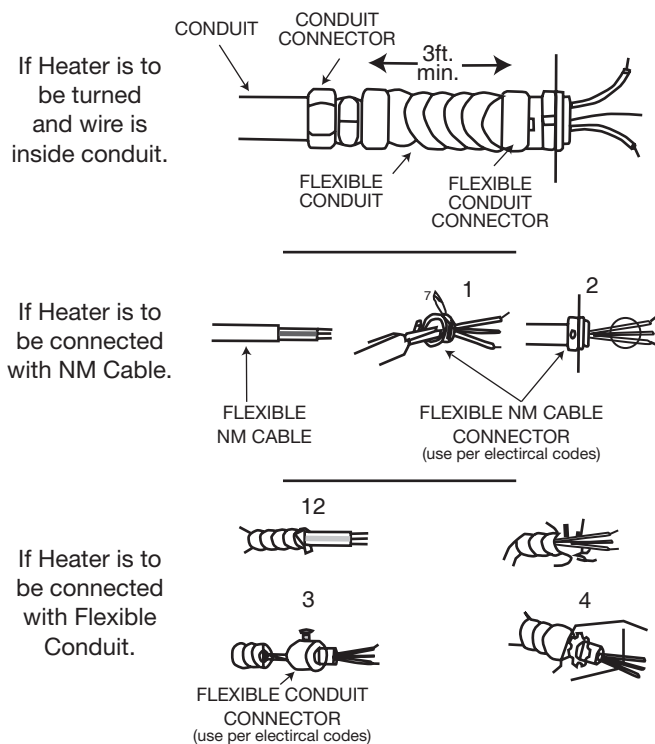

Figure 6
2. Attach flexible cable through a knock-out in the side of the heater following NEC and local codes, (See **Figure 6**) and **SPECIFICATIONS** for recommended wiring and circuit breakers.
NOTE: For certain applications, conduit may be required (See **Figure 6**). Check local electrical codes. If you run the wiring in conduit and wish to be able to turn the heater be sure to purchase enough flexible conduit to allow the heater to be turned.